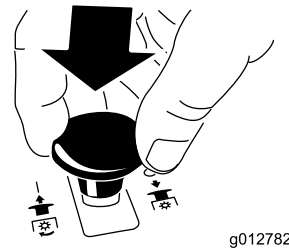

Figure 10
- Push the blade-control switch (PTO) down to the Off position (Figure 10).